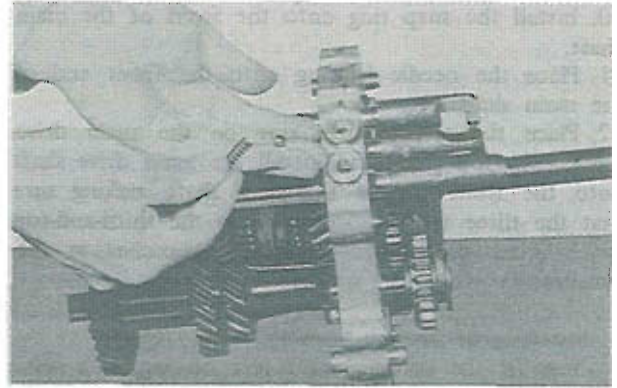

Fig. 7-27 Position of detent ball
7. Position the three detent balls and springs into their respective positions and install the three spring cap bolts onto the bearing housing as shown in Fig. 7-27.